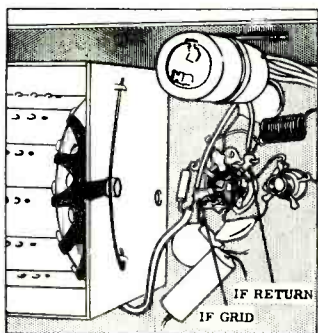

Fig. 1—Mounting the adapter unit.
- (a) Refer to Fig. 1 and mount the adapter unit close to Grid 1 (1st *if*).